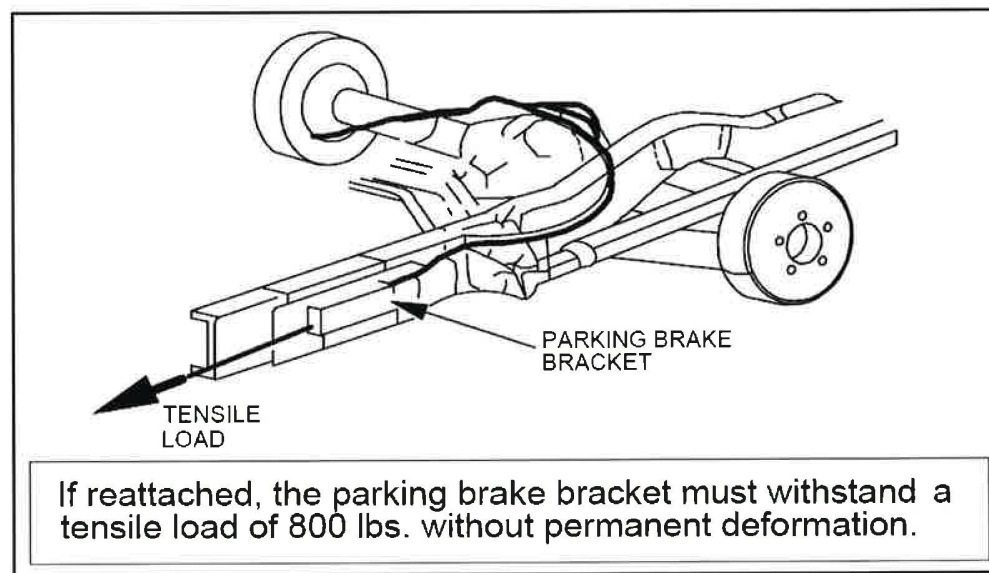

Figure 19 – Parking Brake Bracket Strength
- Parking brake cable bracket attachment to the frame must be able to withstand a tension load of 800 pounds, without any significant deflection. See Figure 19.